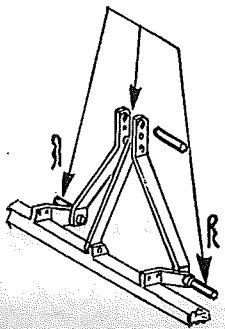

FIG. 5
- 9.3 - Bring the tractor up to the machine, **taking care not to get between the two at this stage**, and proceed with coupling only when the tractor is stationary. Fix the three coupling arms with the relative pins and insert the appropriate safety split pins (fig. 5).
- 9.4 - Limit sideways movements and keep the machine parallel with the tractor, using the stabilizer chains and arm adjustment device (fig. 5.b).
- 9.5 - Adjust the third point arm until the machine coupling is at right angles (fig. 5.a).
split pins (fig. 5).
ngles (fig. 5.a).